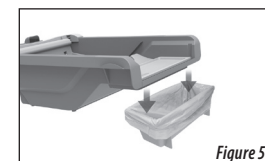

Figure 5
6. Slide the Waste Receptacle (with bag) into place as shown in Figure 5. Line the Receptacle up under the opening so that no waste will miss the Receptacle (see Fig. 6).